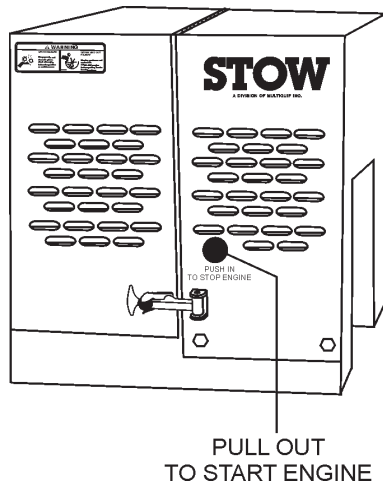

Figure 15. Start/Stop Switch (gasoline engine)
- The main **start/stop** switch located on the engine cover is (Figure 15) is used to start and stop the engine. Pull this switch outward to start the engine.
- Push the main **start/stop** switch (Figure 15) inward to stop the engine.